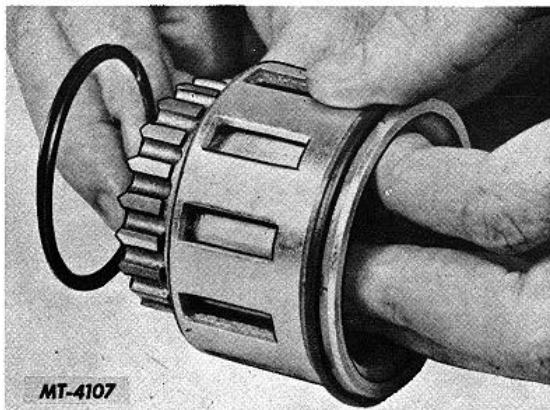

Fig. 14. Removing Centering Spring and Rollers
Remove the 10 rollers (7) from the roller cage (9). Take out centering spring (8). See Fig. 14.
Slip the centering spring (8) into the groove in the back side of the axle shaft hub, Fig. 14. NOTE: The two ends of the spring go into the slot in the cage which is longer than the rest. Place a small amount of lightweight chassis lubricant into all the slots in the cage and into the bore of the hub body.